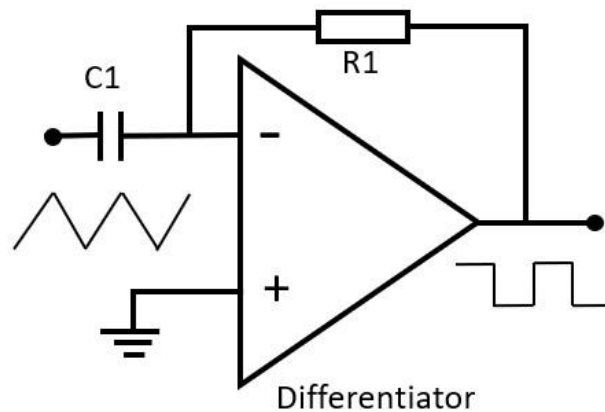

Figure 7: Integrator.
6. **The Integrator Op Amp** performs integration with respect to time. The output is proportional to the input voltage integrated over time governed by R_1 and C_1 (Figure 7).